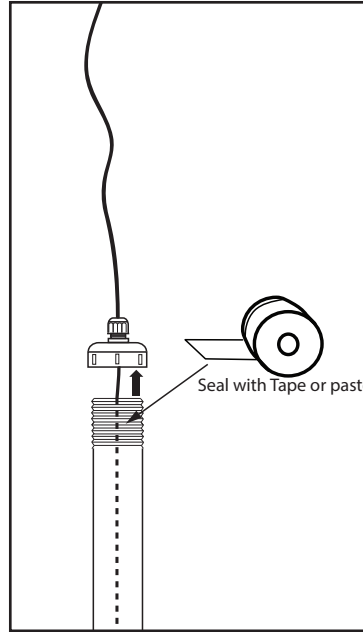
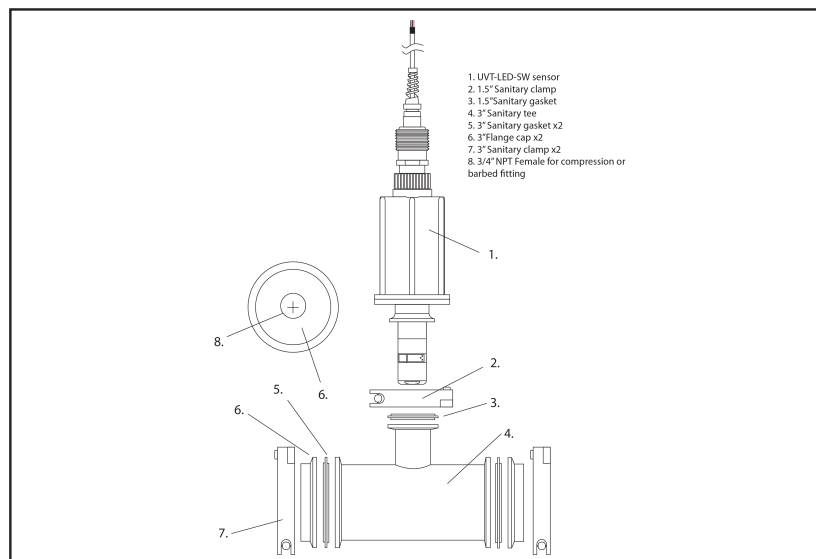

FIG. 12
FIG. 22
- D) Seal top cap onto pipe (make sure cord grip is loose). See FIG 12
Refer to FIG 22 - 27 for assembly procedure. After assembling, attach to existing clamps in place of 1.25" pipe from other supplier.
C) 3" Sanitary tee kit (UVT0015) - refer to FIG. 12. 2" Sanitary tee kit (UVT0024) refer to FIG 22
D) 2" NPT PVC tee kit (UVT0023) - refer to FIG. 12